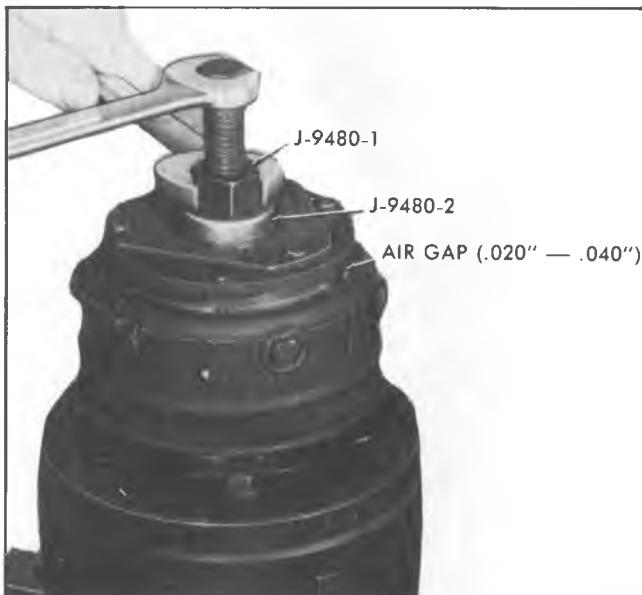

Fig. 72--Installing Clutch Plate and Hub Assembly
4. Place spacer bearing J-9480-2 on hub and insert end of clutch plate and hub assembly installer J-9480-1 through spacer J-9480-2 and thread tool onto end of compressor shaft (Fig. 72).
5. Hold hex portion of tool body with a wrench and tighten center screw to press hub onto shaft until there is a .020 to .040 inch air gap between the frictional surfaces of clutch plate and clutch rotor (Fig. 72).